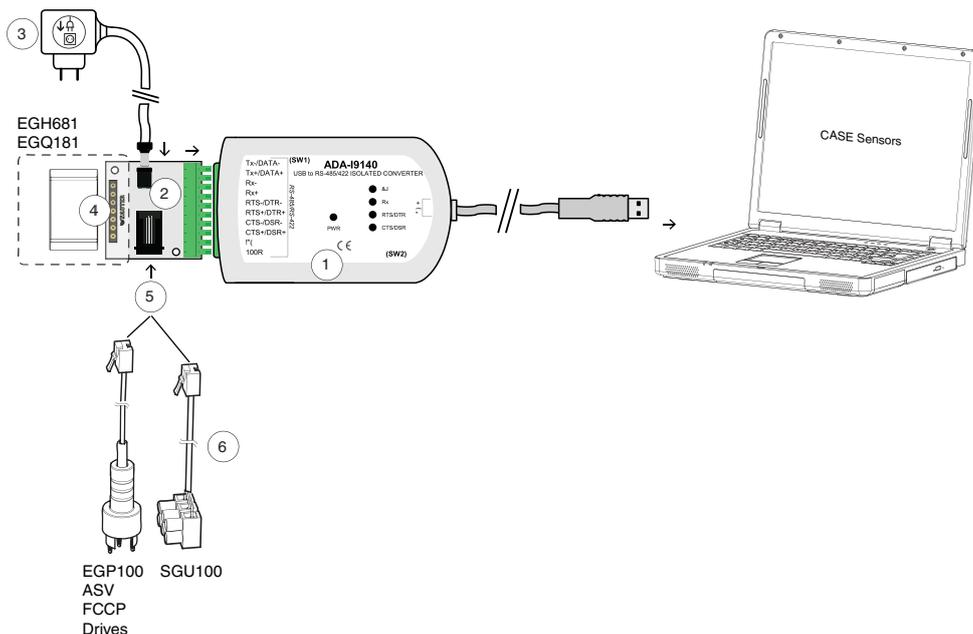

Fig. 4 Connection USB / RS 485 interface converter to PC
1 Connection at slot (5), fig. 4, of the universal adapter.